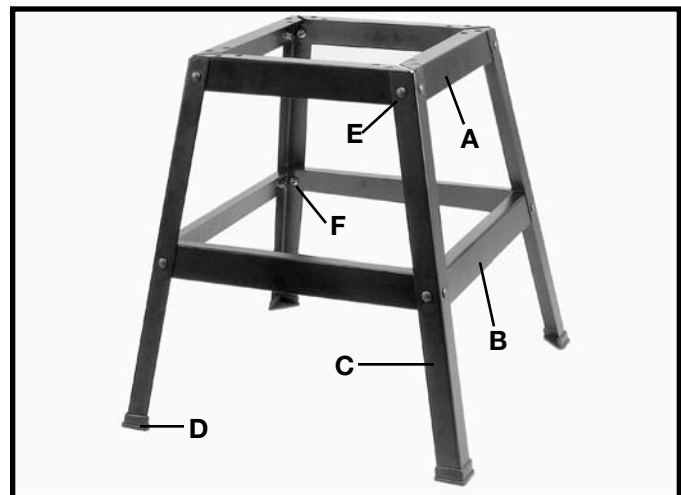

Fig. 3
- A - Top Brace 17-7/8" (4)
- B - Bottom brace 22-1/4" (4)
- C - Leg (4)
- D - Rubber feet (4)
- E - Carriage bolt M8x1.25x16mm (16)
- F - Flange nut M8x1.25 (20)
- * - Hex head flange screw M8x1.25x35mm (4) (For fastening planer to stand) * not shown
1. Align the holes in the bottom braces (B) Fig. 3 with the holes in the legs (C), insert a carriage bolt (E) through the leg and the bottom brace, and thread the flange nut (F) onto the carriage bolt. Repeat this process for the remaining holes in the bottom braces and table legs. Do not completely tighten hardware at this time.
2. Assemble the top braces (A) Fig. 3 to the legs (C) in the same manner as step 1.
3. Insert the rubber feet (D) Fig. 3 onto the end of the legs (C) and tighten all hardware at this time.